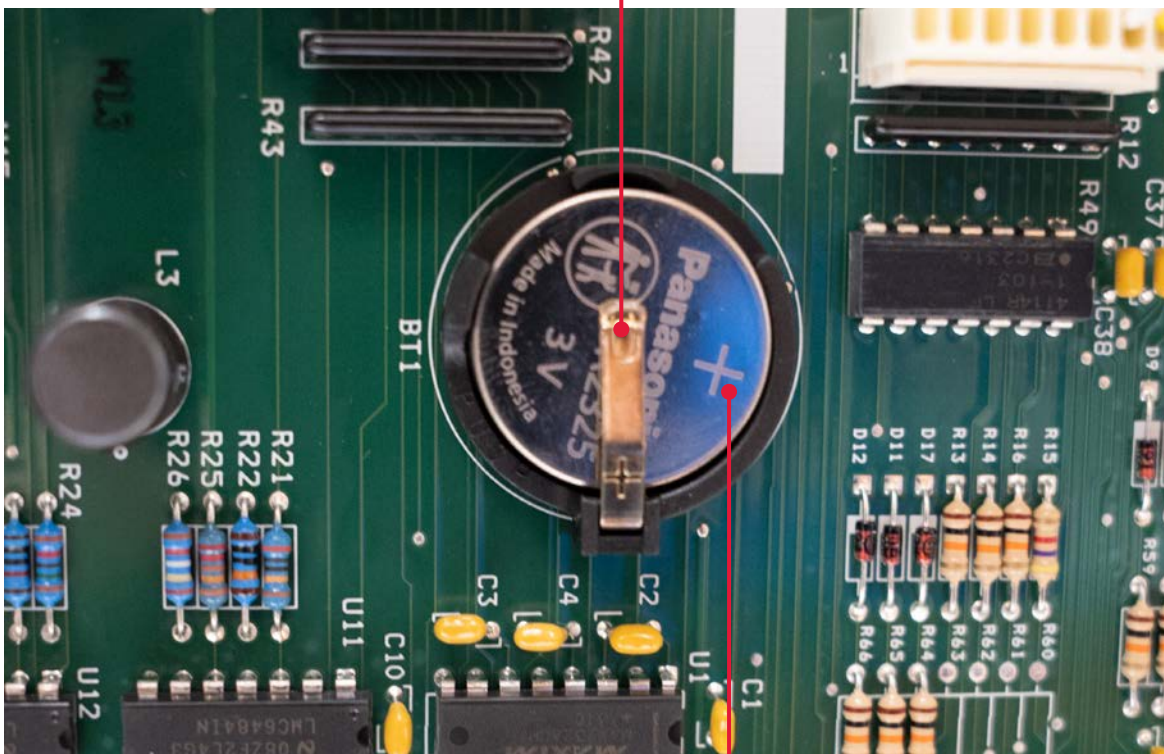

Figure 48
4. The location of the battery is shown on **Figure 48 on page 104**; be sure to read all associated notes and instructions for this section, as it contains important details for the battery removal process.
5. The process for battery removal and replacement is shown in **Figure 48 on page 104**; be sure to read all associated notes and instructions for this process; there are important pieces of information that must be reviewed and understood.